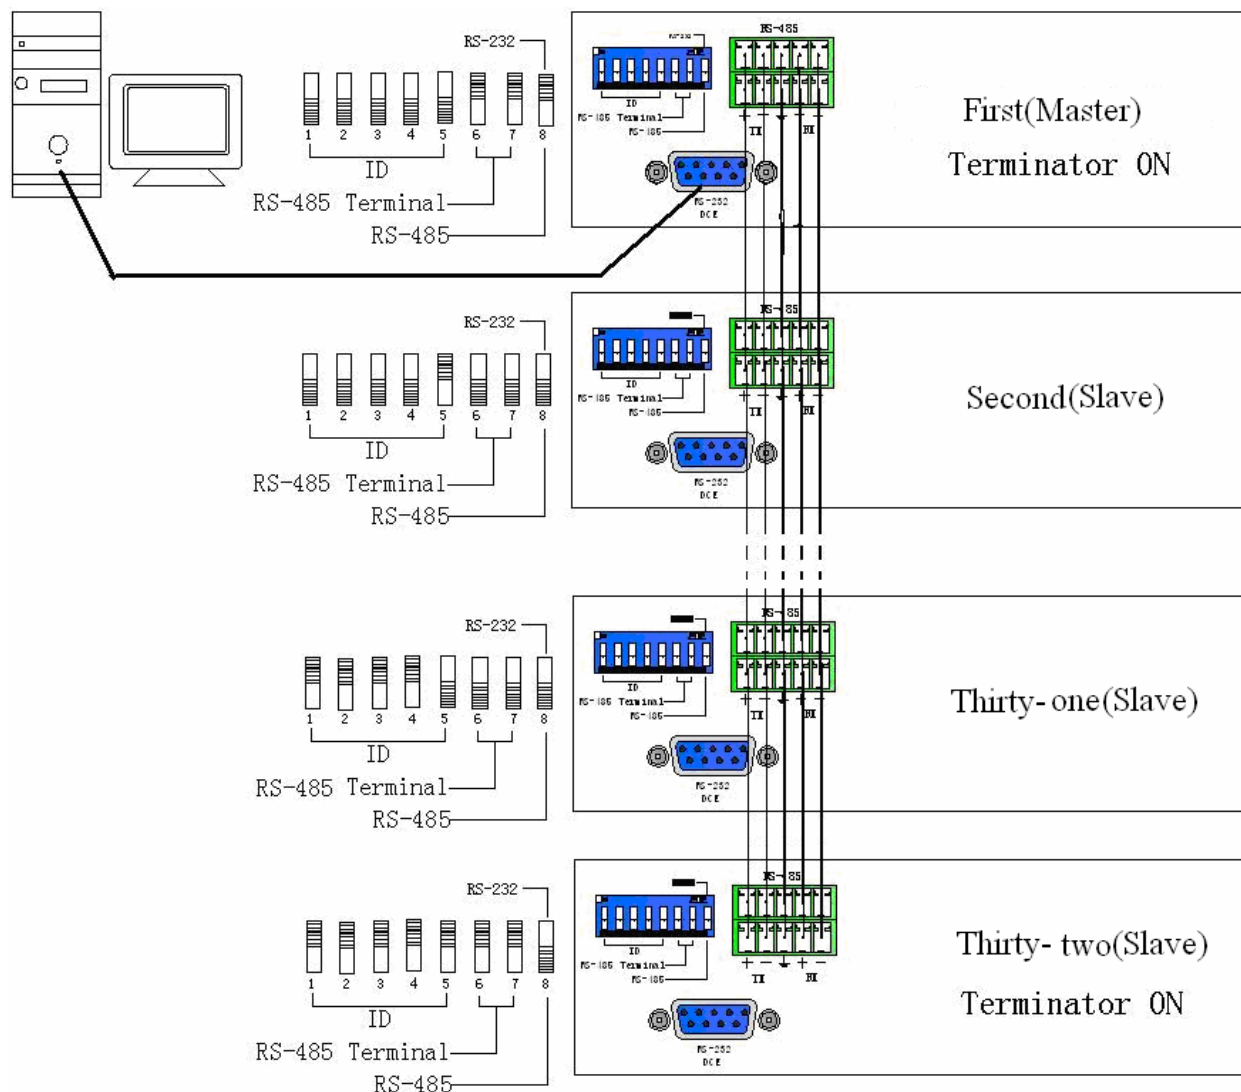

Figure 5-9
A. If PC provides RS-232, connection is as in Figure 5-9 below: